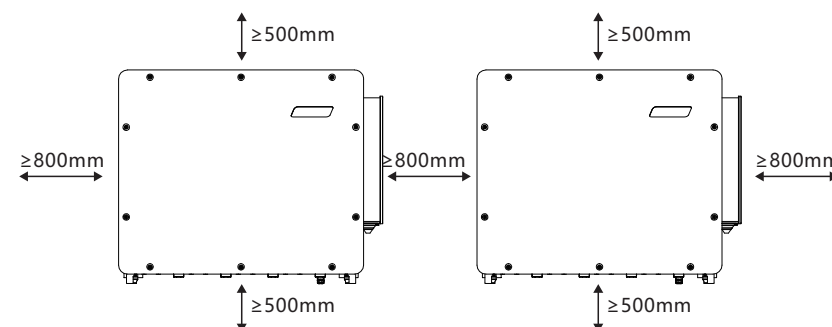

Figure 3.1 Distances required between inverters
- If multiple inverters are installed on site, a minimum clearance of 800mm should be kept between each inverter and all other mounted equipment. The bottom of the inverter should be at least 500mm above of the ground or floor (see Figure 3.1).